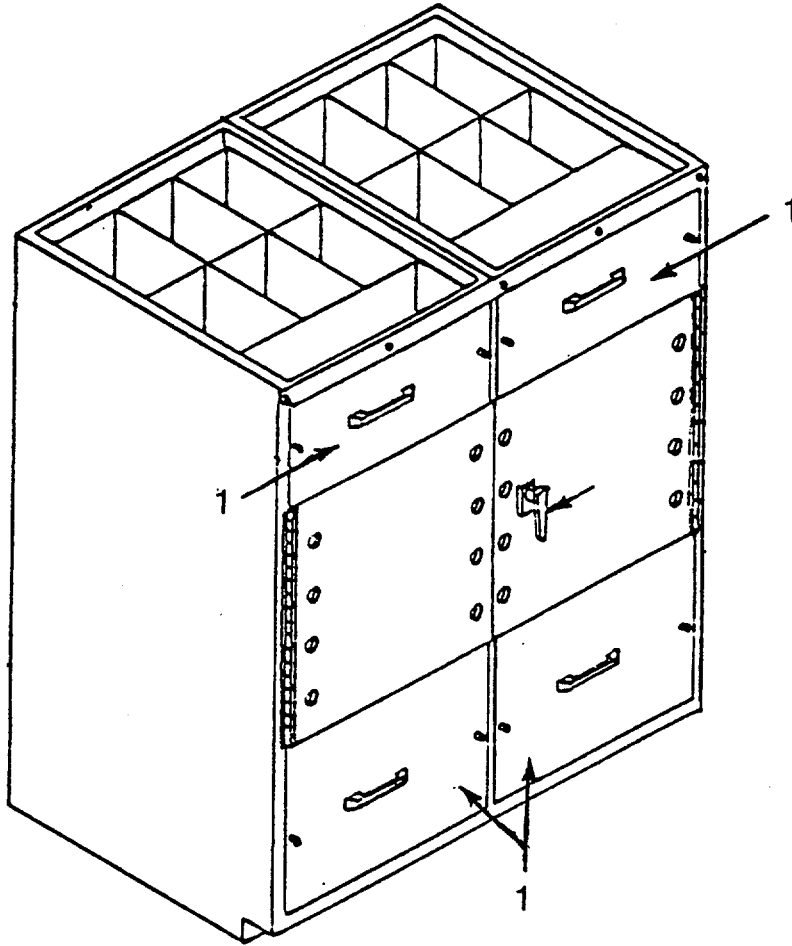

Figure 4-16. Supply Storage Cabinet Assembly
a. Inspect. (See Figure 4-16.)
(6) Remove storage cabinet drawers (1, Figure 4-16.)